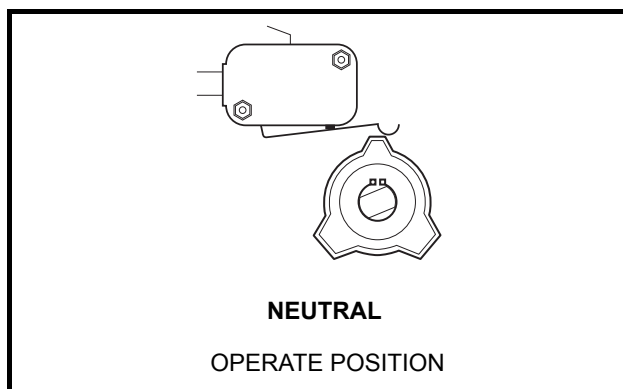

Figure 11-1 Correct Position for Lockout Cam
**NOTE:** Be sure the cam is in the correct position. The cam should activate the limit switch only when the Forward/Reverse handle is in the NEUTRAL position (**Figure 11-1, Page 11-5**).